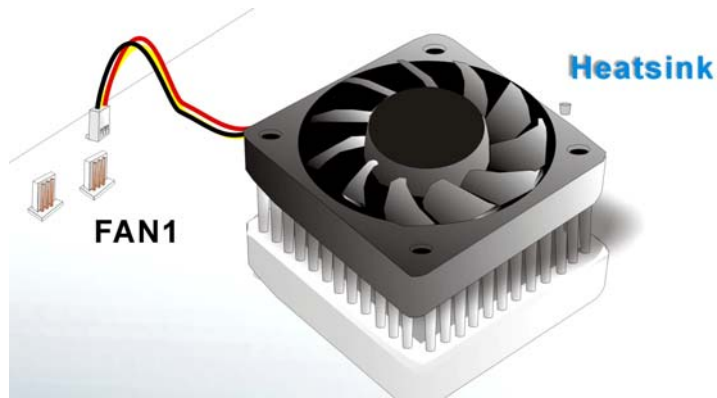

Figure 4-5: Connect the cooling fan cable
Step 4: **Connect the fan cable.** Connect the cooling kit fan cable to the CPU_FAN1 connector on the CPU card. Carefully route the cable and avoid heat generating chips and fan blades. (Figure 4-5)